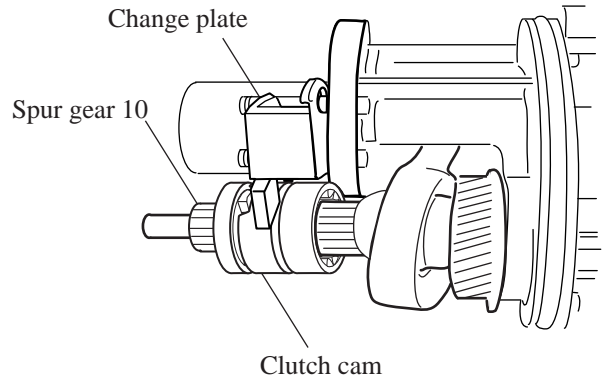

Fig. 12E
7. Assemble spur gear 10 to cam shaft as illustrated in Fig. 12E.